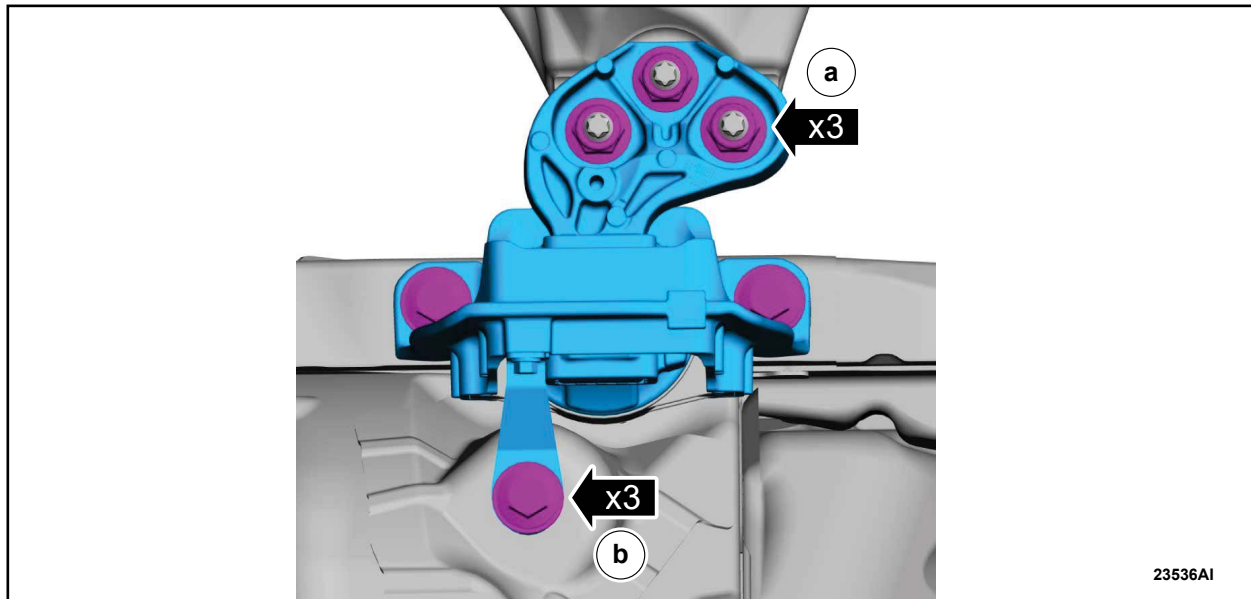

FIGURE 39
a. Install the engine mount and the nuts. See Figure 39.
b. Install the engine mount bolts finger-tight. See Figure 39.